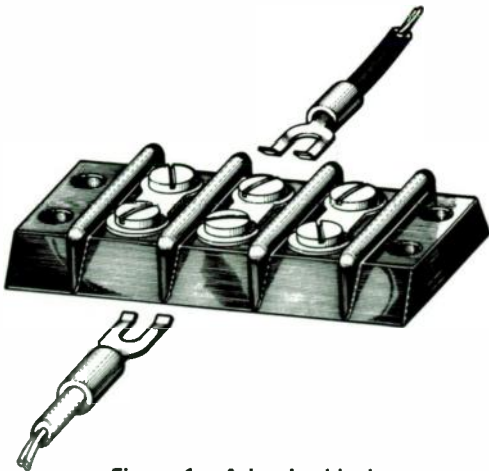

Figure 1 - A barrier block.
Today's electronic products bear slight resemblance to those of a few years ago. Even earlier products appear almost unrelated. Radio sets of the twenties consisted of parts bolted to phenolic bases or attached to boards with screws. The interconnection of components was accomplished at screw terminals and terminal boards (Fig. 1). Only a small number of parts were involved and these were huge by today's standards. Since space was not a problem, crude methods and parts were adequate in 1925; but as radios became more complex, advanced techniques and smaller components became essential.
1. *Lugged wires* are tipped with either a soldered lug or a crimped on lug and then joined with others at screw terminals (Fig. 1). Extensive use of this method is limited because of high cost and space requirements.
Signal and power in electronic circuits are routed through wiring and components which are interconnected at junctions. One of the earliest forms of junctions was made by connecting wires and/or part leads together at terminal blocks (Fig. 1). A connecting device called a terminal lug was installed on the ends of wires and secured under a screw. This method proved to be both expensive and space-consuming.